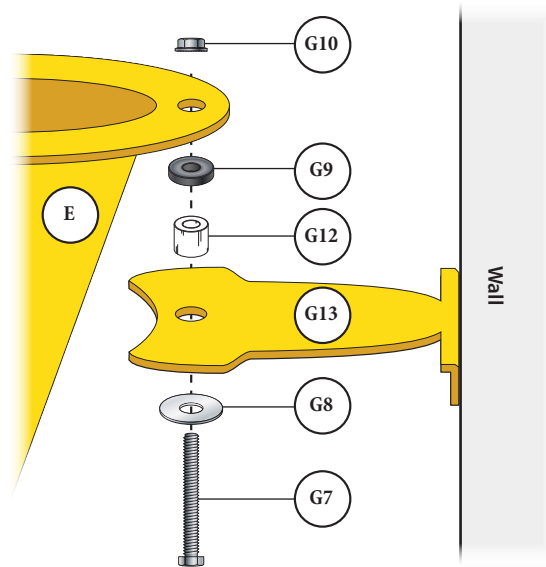

FIG. 13
- 14** Secure the Rear Support Brace (G13) to the Cyclone (E) using a 2-1/2" Hex Head Bolt (G7), Flat Washer (G8), Nylon Spacer (G12), Rubber Washer (G9), and Whiz-Lock Nut (G10) as shown in [FIG. 13].